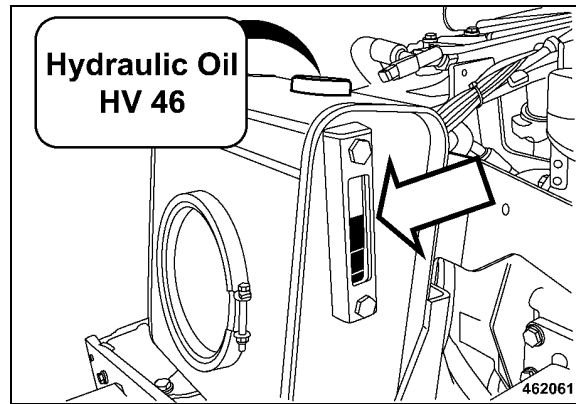

Fig. 158
- Fill in new hydraulic oil (Fig. 158).